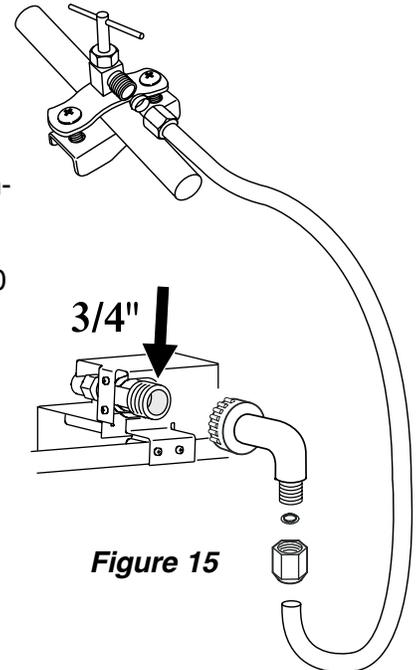

Figure 15
2. The 1/4" OD copper tubing between the shut-off valve and solenoid valve has a **Metric R3/4 male connector (Figure 15)**. Make sure there is approximately 30" (70 cm) of excess tubing behind the unit for easy connection.